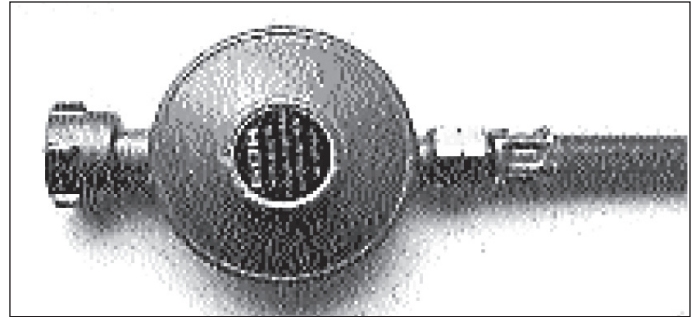

Figure 5-25.
4. Check that data plate and pressure regulator show the same values. (See Figure 5-25)